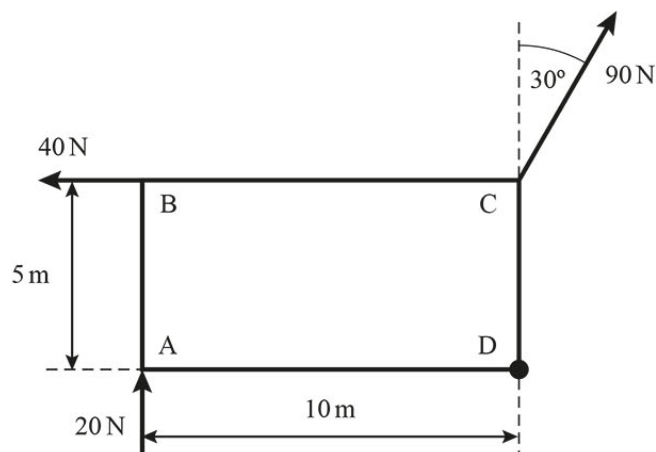

Fig. 4
- 3 Fig. 4 shows a uniform rectangular plate with length 10 m and width 5 m. The plate is subjected to three forces of 20 N, 90 N and 40 N.